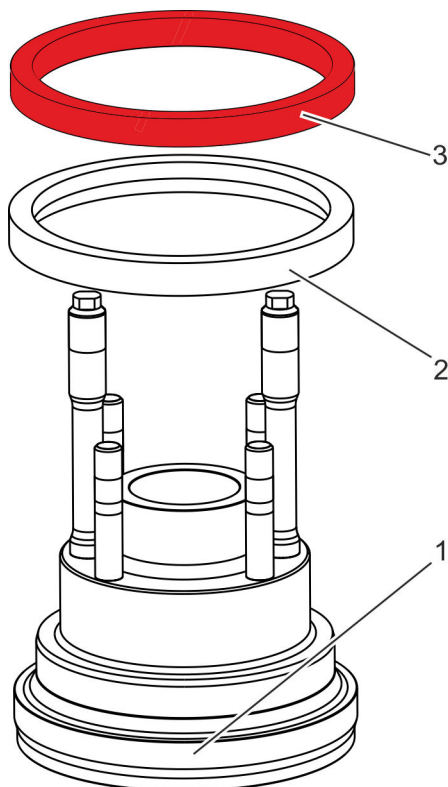

Fig. 43: Removing the support ring and gasket ring
22. Lift the support ring (Fig. 43/3) up off the cover (Fig. 43/1).
23. Lift the gasket ring (Fig. 43/2) up off the cover (Fig. 43/1).